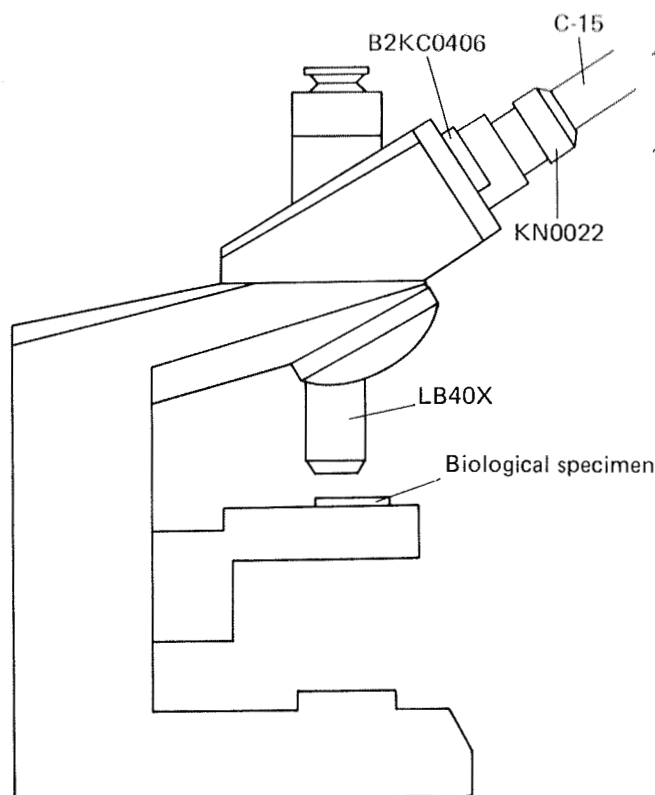

Fig. 13-8
- a) Place the following Jigs on the Microscope Stand as shown in Fig. 13-8: